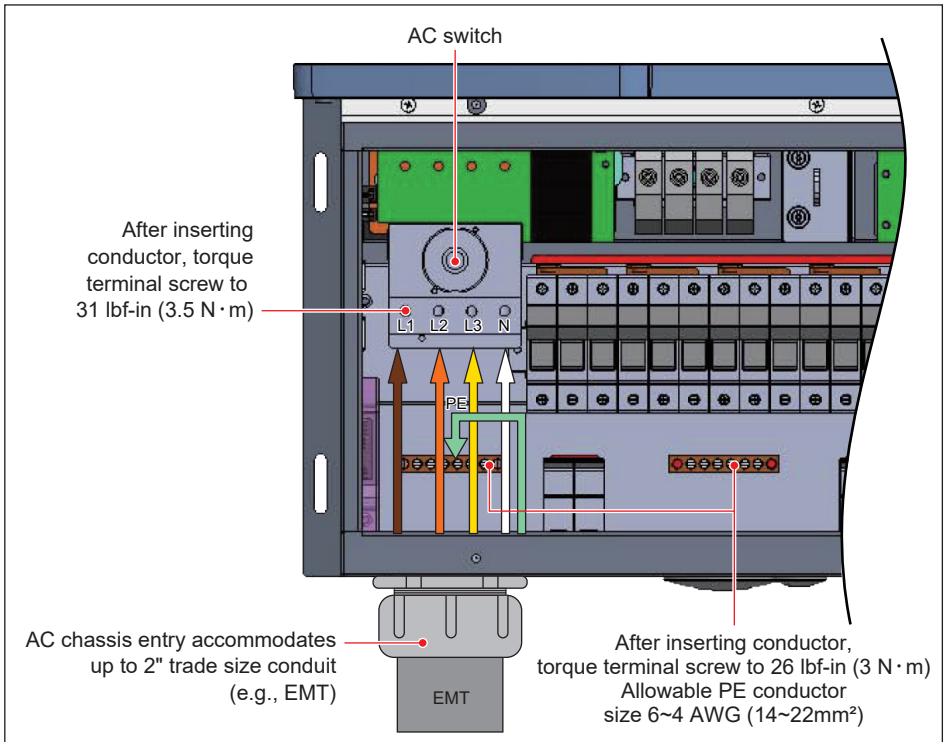

Figure 3-19: Two optional Location of AC terminals and wiring (120 model)
Figure 3-19 illustrates the location of the AC conduit entry and connections and AC terminal block: for 120 models.
- Insert the EGC (6~4 AWG) into the ground bar and tighten the lug in the ground bar lug to a torque value of 26 lbf-in (3 N·m). (see **Figure 3-19**)